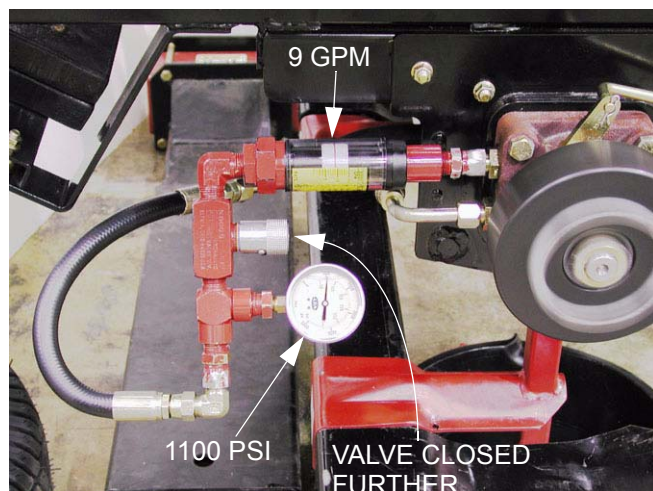

Figure 4.25
- 4.25. Continue closing the valve until the pressure reading reaches 1,100 PSI (76 bar.). Take note of the flow reading. See Figure 4.25.